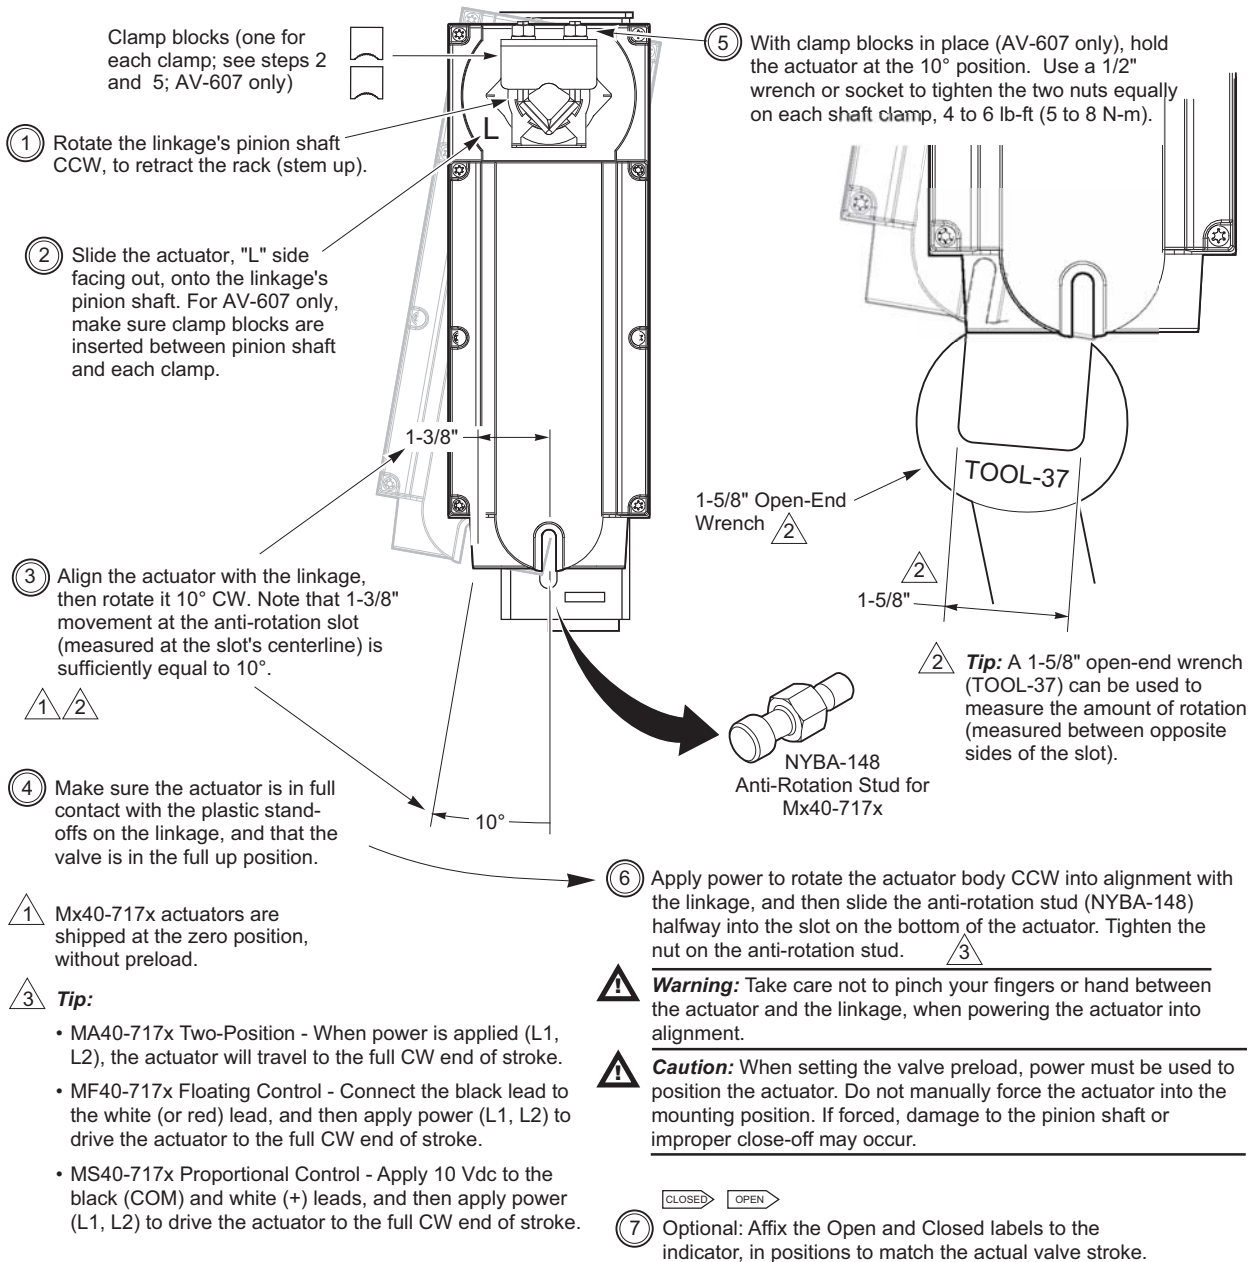

Figure-14 Mounting Mx40-717x and Setting up Actuator/Linkage/Valve Assembly.
- a. Install the actuator onto the linkage and valve, and set up the assembly, according to Figure-14. Use the two clamps supplied with the linkage.